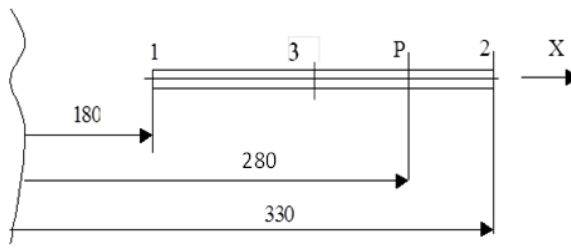

Figure 8
- (b)** Consider element with quadratic shape function as shown in Figure 8. Evaluate natural coordinates and shape function for point P. Displacement at node 1, node 2 and node 3 is 0.2 mm, 60.1 mm and 0.05 mm respectively. Determine; (1) displacement at point P (2) determine in global terms where the displacement would be 0.1 mm and (3) determine shape functions at point where displacement is 0.1 mm. **07**